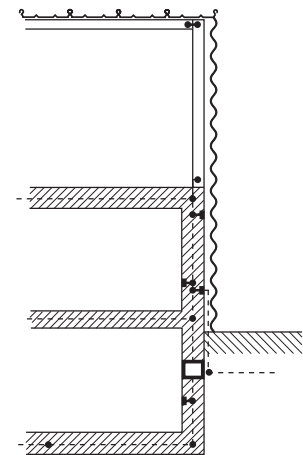

Fig. 5 Example of a continuous connection and grounding
- The building cover must be continuously connected and grounded (see fig. 5). Window openings must be bridged.